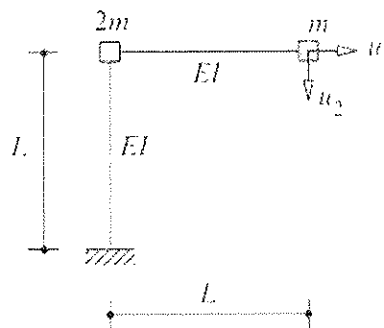

Fig.1
1. Given an inverted L-shaped frame with lumped masses shown in Fig.1.